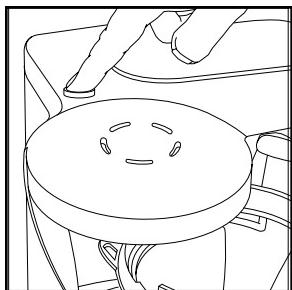
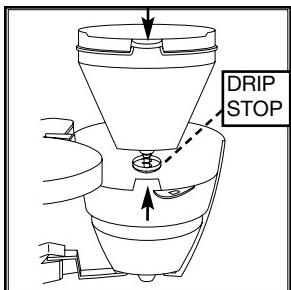

FIG. 4
FIG. 5
- a. Push the button to open the swing-out filter (see fig. 4). On the inside you will find a removable GoldTone filter and a removable filter holder. **Caution:** The handle of the filter holder has to sit over the raised plastic part of the filter (see fig. 5). If the filter holder is not inserted properly, it is not possible to close the swing-out filter back into machine.